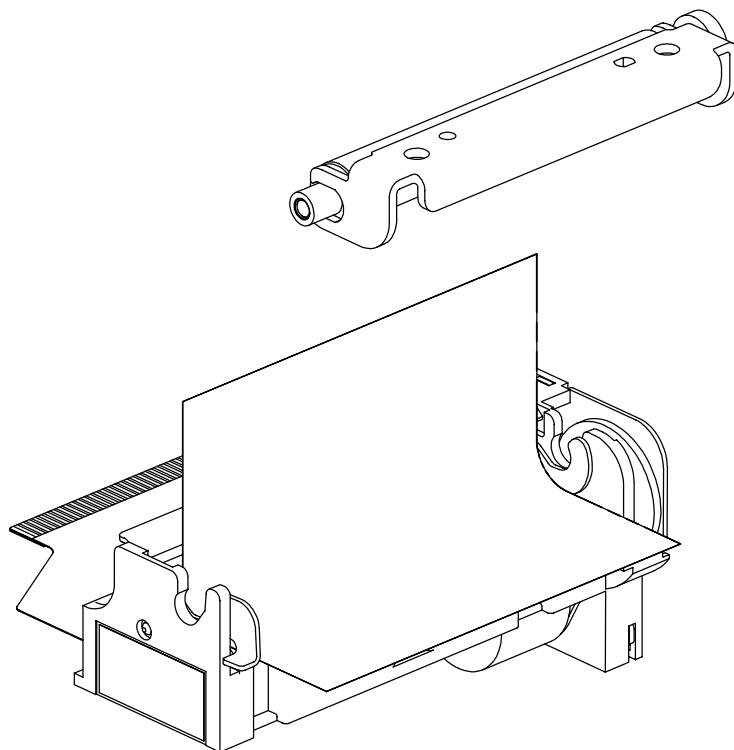

Figure 8-4 Loading Paper (2)
- Insert the paper vertically into the printer. (See **Figure 8-4**).